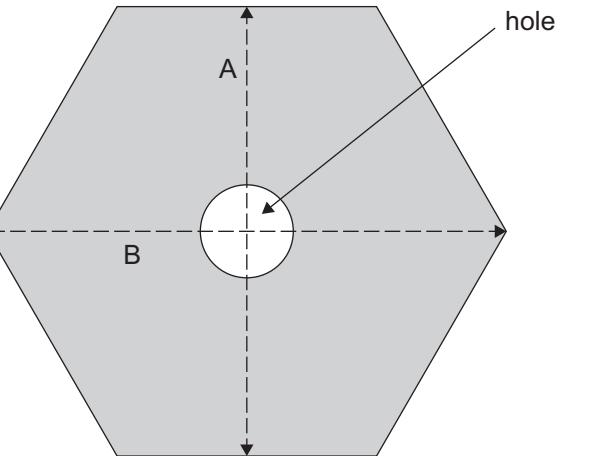

Fig. 3.1
You have been provided with a regular hexagonal lamina with a circular hole as shown in **Fig. 3.1**.
where A and B are the lengths shown on **Fig. 3.1**.
- (c) Use values from **Table 3.1** to calculate the area of the lamina as shaded in **Fig. 3.1**.